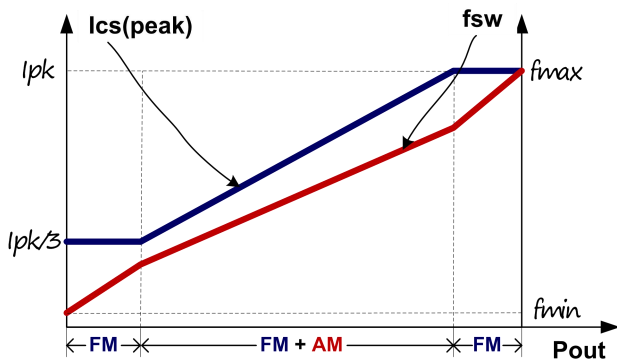

Fig.4
To meet the tight requirement of averaged system efficiency and no load power consumption, a hybrid of frequency modulation (FM) and amplitude modulation (AM) is adopted in DP1803 which is shown in the Fig 4.